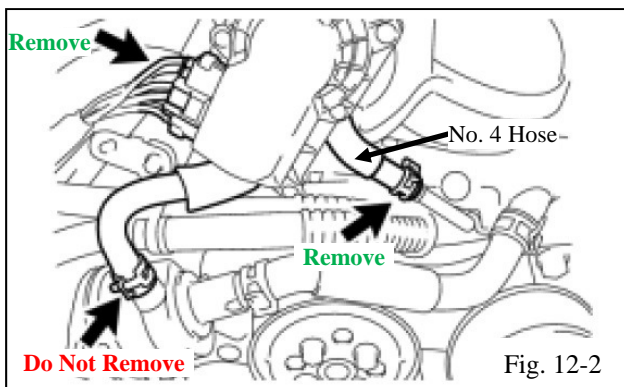

Fig. 12-2
- (c) Disconnect the No. 4 water bypass hose and the throttle body connector (Fig. 12-2). Do not disconnect the No. 5 water bypass hose from the water inlet housing or the throttle body.